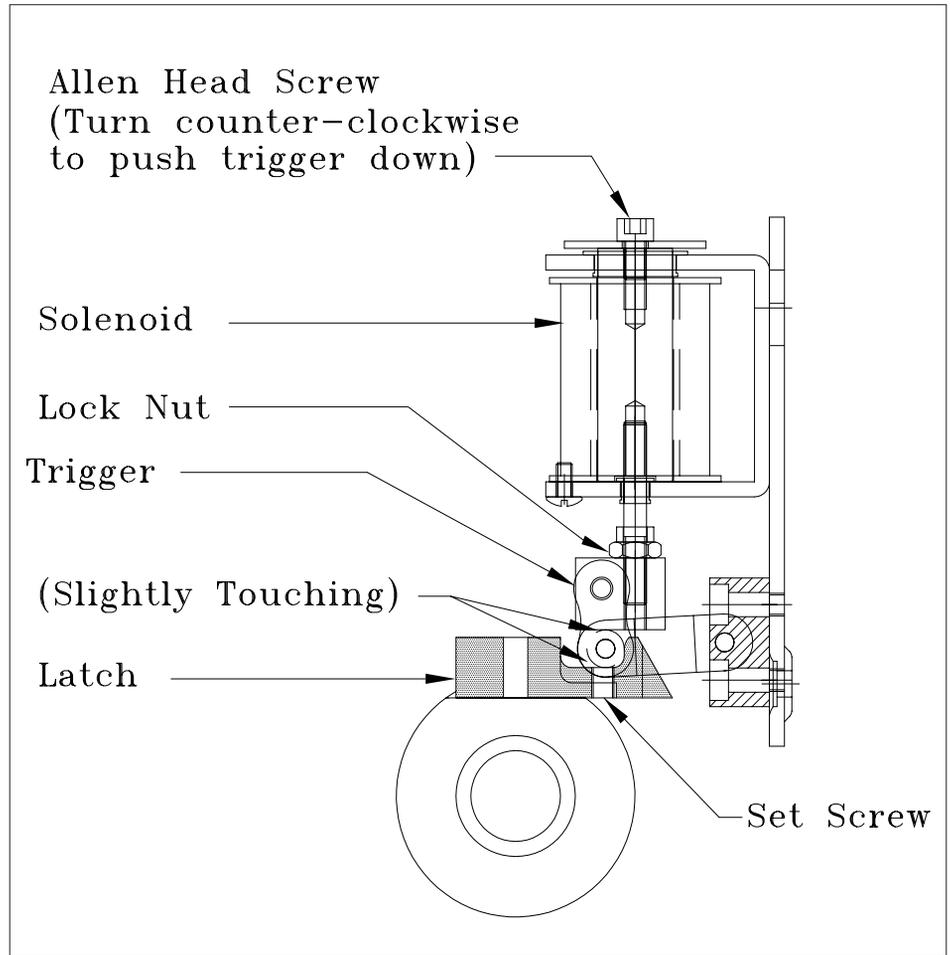

Figure 2
- 1) The solenoid assembly latches – electricity to the solenoid plunger is designed to hold the shoes open (Figures 2 and 3).
Check for proper trigger and latch setup (Figures 2 and 3). Starting with the Rope Gripper held open with the security screws (like it was shipped), do the following: